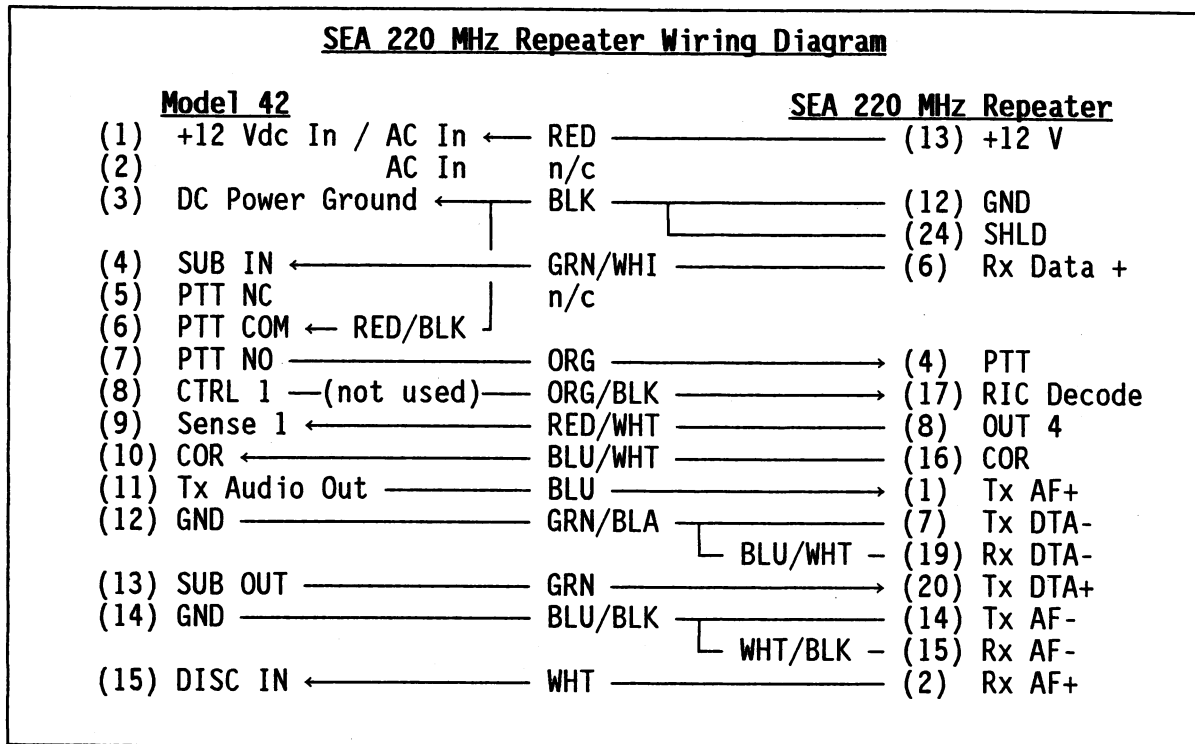

Figure 4-15. Model 42 SEA 220 MHz Repeater Cable (709-7238)
- []4. Connect the Model 42 to the SEA 220 MHz Repeater with the SEA Repeater Cable (709-7238) as shown in Figure 4-15.